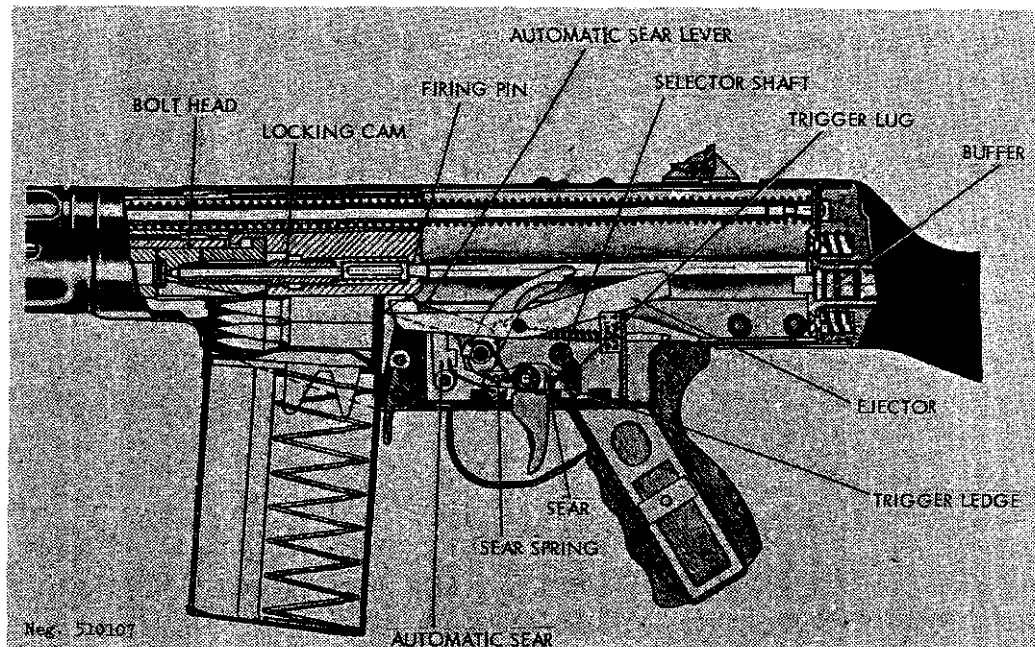

Figure 108. G3 rifle section.
d. The extractor pulls the fired cartridge case from the chamber and holds it to the bolt face. The rear end of the ejector (fig 108) is struck by the recoiling bolt carrier; this causes the ejector to pivot so that its front end enters the bottom of the bolt head. As the bolt continues to recoil, the cartridge case strikes the ejector, pivots about the extractor, and is expelled from the rifle.
e. The bolt carrier strikes the buffer (fig 108) at the front of the butt stock and stops. The driving spring then drives the carrier forward, and the bolt head forces the top cartridge out of the magazine and into the barrel. The extractor snaps into the cartridge groove, and the forward movement of the bolt head stops when it hits the end of the barrel. The carrier has a lock to keep the bolt head locked forward; this is now tripped by a lug in
f. The rifle's trigger mechanism is similar to that of the FN/FAL rifle (para 130f and g). The hammer, powered by a coil spring and plunger, is held cocked by a sear that can move back and forth in relation to the trigger. When the hammer is cocked, pressure on the trigger is transmitted to the rear end of the sear through the trigger ledge (fig 108). This causes the front of the sear to move down and release the hammer. The hammer, under pressure of its spring, swings forward and strikes the firing pin. Upon firing, the recoiling bolt carrier rocks the hammer back to its cocked position.
g. When the selector is set for semiautomatic fire, a cutaway section on the selector shaft limits the upward movement of the trigger lug (fig 108). When the trigger is pressed and the
h. When the selector is set for automatic fire, the trigger can rise to its highest point, and the nose of the sear is depressed far enough so that the sear cannot reengage the hammer. The automatic sear (fig 108), however, holds the hammer cocked, and as the bolt carrier completes its forward travel, it depresses the automatic sear lever (fig 108); this, in turn, moves the automatic sear out of engagement with the hammer. The hammer swings forward to fire, and this action is repeated until the trigger is released. The sear can then rise, intercept the hammer, and interrupt the firing cycle.